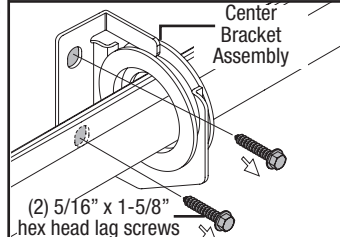

Fig. 8
**Step 6:** Remove the two (2) 5/16" x 1-5/8" lag screws attaching the center bracket assembly to the header board (Fig. 8).